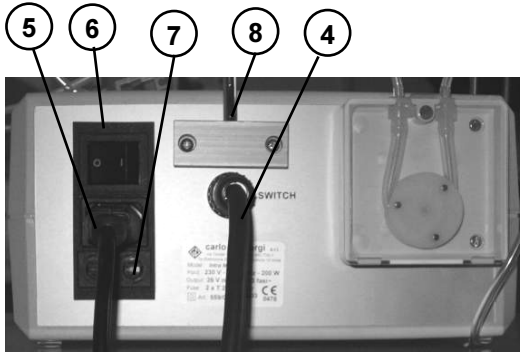

Fig. 2
With reference to Fig. 2, connect the footswitch to socket (4) on the rear panel by inserting the plug and twisting the locking ring; Insert the saline solution stand into upper socket (8) and then hang the saline solution bottle by the plastic cradle.
Finally, plug the power plug into the mains socket outlet, connecting the appliance side (see Fig. 2) to socket (5) located on the rear of the unit; the same figure shows the main power switch (6) and the two fuses (7). At this point attach the required surgical handpiece (not included) to the micromotor.